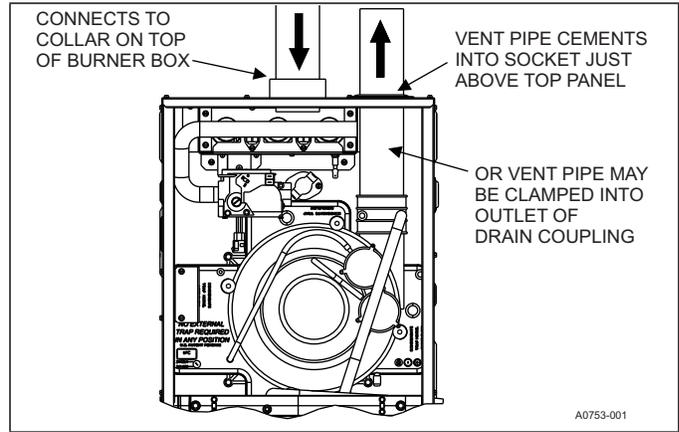

FIGURE 28: Direct Vent Air Intake Connection and Vent Connection
- **OUTDOOR COMBUSTION AIR:** This is a direct vent configuration where the combustion air is supplied through a PVC or ABS pipe that is connected to the PVC coupling attached to the furnace and is terminated in the same atmospheric zone as the vent. This type of installation is approved on all models. Refer to Figure 28.
This installation requires combustion air to be brought in from outdoors. This requires a properly sized pipe (shown in Figure 28) that brings air in from the outdoors to the furnace combustion air intake collar on the burner box. The second pipe (shown in Figure 28) is the furnace vent pipe.